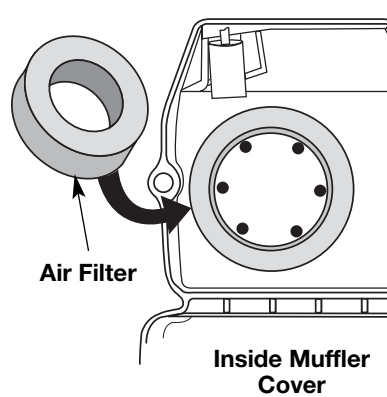

Fig. 27
2. Turn cover over and look inside to locate the air filter. Remove the air filter from inside the air filter/muffler cover (Fig. 27).
6. Replace the air filter inside the air filter/muffler cover (Fig. 27).